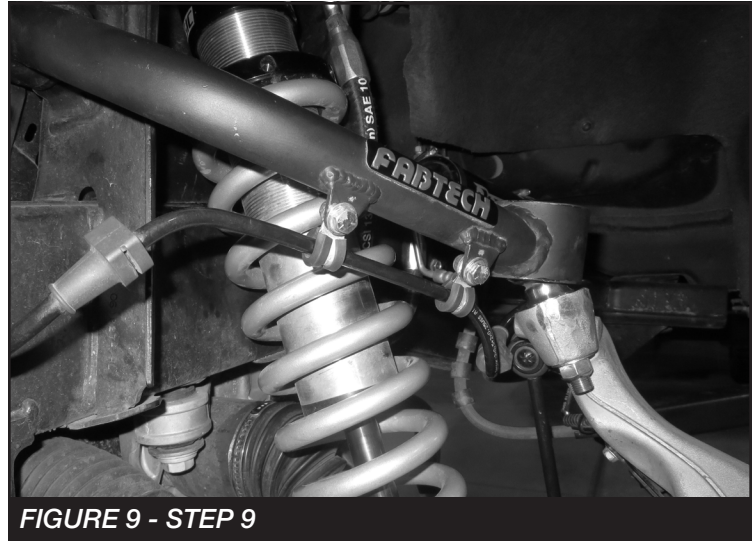

FIGURE 9 - STEP 9
9. Install the ABS line to the new upper control arm using the supplied clamps and 1/4" hardware. Torque to 10 ft-lbs. **SEE FIGURE 9**